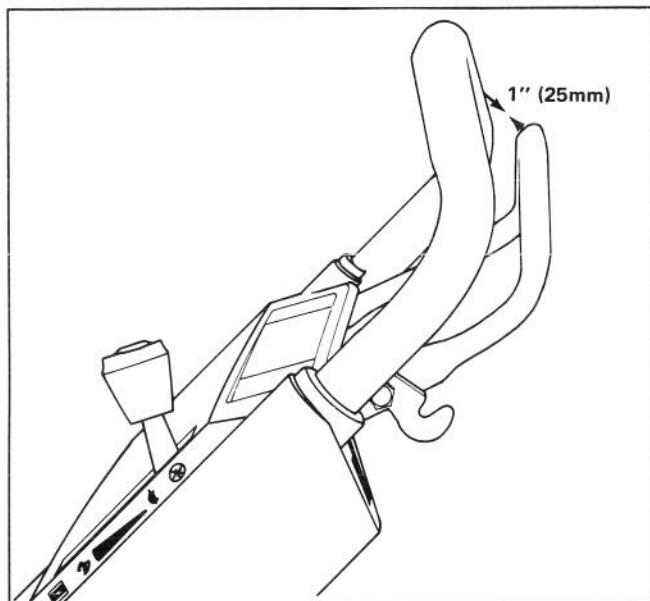

Figure 21
3. To check traction adjustment, slowly squeeze the control bar toward the handle. The traction is adjusted correctly when resistance is felt when the control bar is approximately 25 mm (1") from upper handle (Fig. 21).